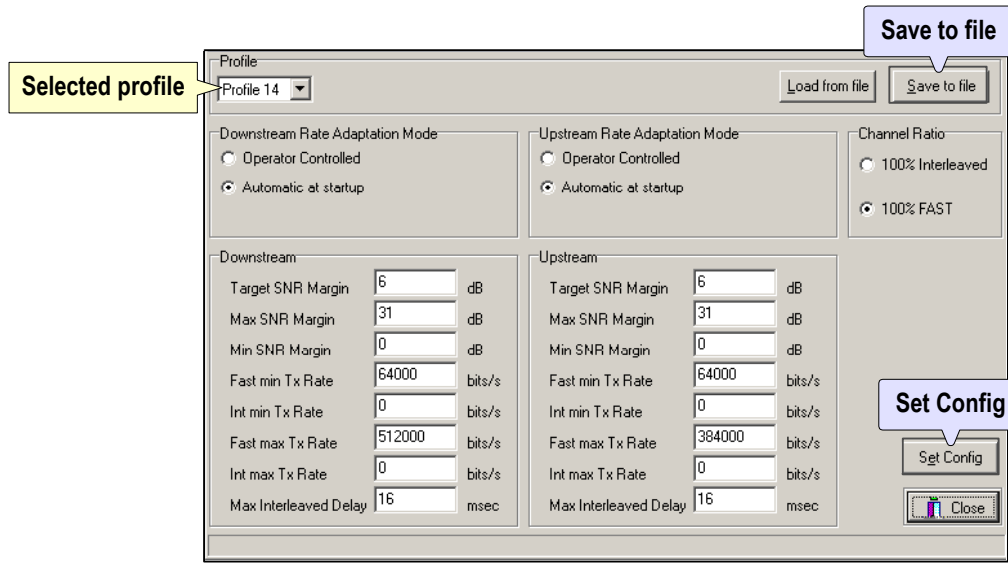

Figure 53 – ‘Profile Manager’ screen
*The **Profile Manager** screen (Figure 53) shows current settings for the profile you selected.*